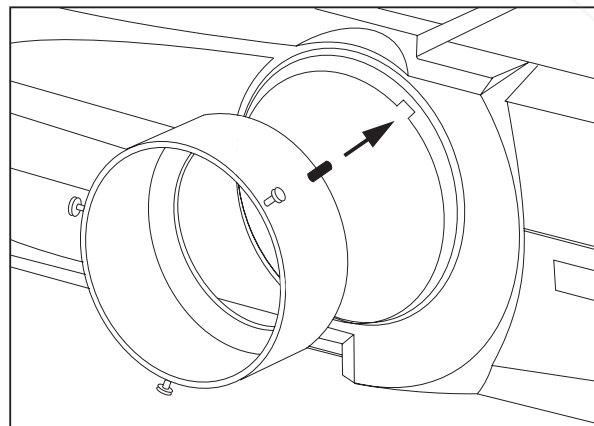

Figure 4-7. Align adapter collar pin to slot in projector
- a) Insert the new zoom adapter collar (available separately) into the empty lens area of the projector, aligning the collar pin to the slot in the projector (Figure 4-7). Fully *loosen* all 3 collar thumbscrews.